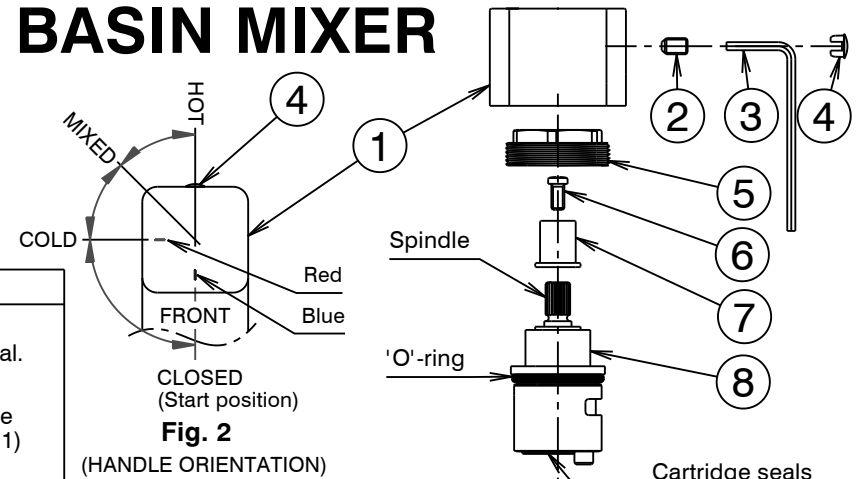

Fig. 2
- * This mixer is fitted with a 'Progressive' cartridge. To operate the cartridge, the handle is rotated clockwise (Fig.2). The first 90° of handle rotation will only select cold water, avoiding unnecessary use of hot water. Further rotation of the handle will deliver a mixture of hot and cold. When the handle is rotated fully clockwise, only hot water will flow.
- 2) Carefully remove plug (4) before using a 2.5mm allen key (3) to loosen grub screw (2) and remove handle (1). Undo screw (6) and remove insert (7) from old cartridge spindle. Unscrew retaining nut (5) then lift out old cartridge (8).
- 3) Ensure inside face of mixer body (9) is clean. Check that seals are in position in base of new cartridge (8), Fit new cartridge (8) into mixer body (9), taking care the lug on base of cartridge (8) fits into mating hole in mixer body (9). Screw on nut (5). **Important:** Nut (5) should be tightened until solid. Rotate the cartridge spindle anticlockwise to the stop position then fit insert (7) with the flat sides of the insert in close alignment with the square shape of the body (9). Retain the insert to the spindle using screw (6).
- 4) Fit handle (1) onto insert (7) with the hot/cold markings as shown (Fig.2) and check alignment of the handle sides with the square shape of the body. Small adjustments can be made to the handle alignment by loosening nut (5) and rotating the cartridge slightly before re tightening the nut.
- 5) Fit handle (1) taking care that it is pushed fully onto insert (7), then tighten grub screw (2). Replace plug (4) taking care not to damage the decorative finish.